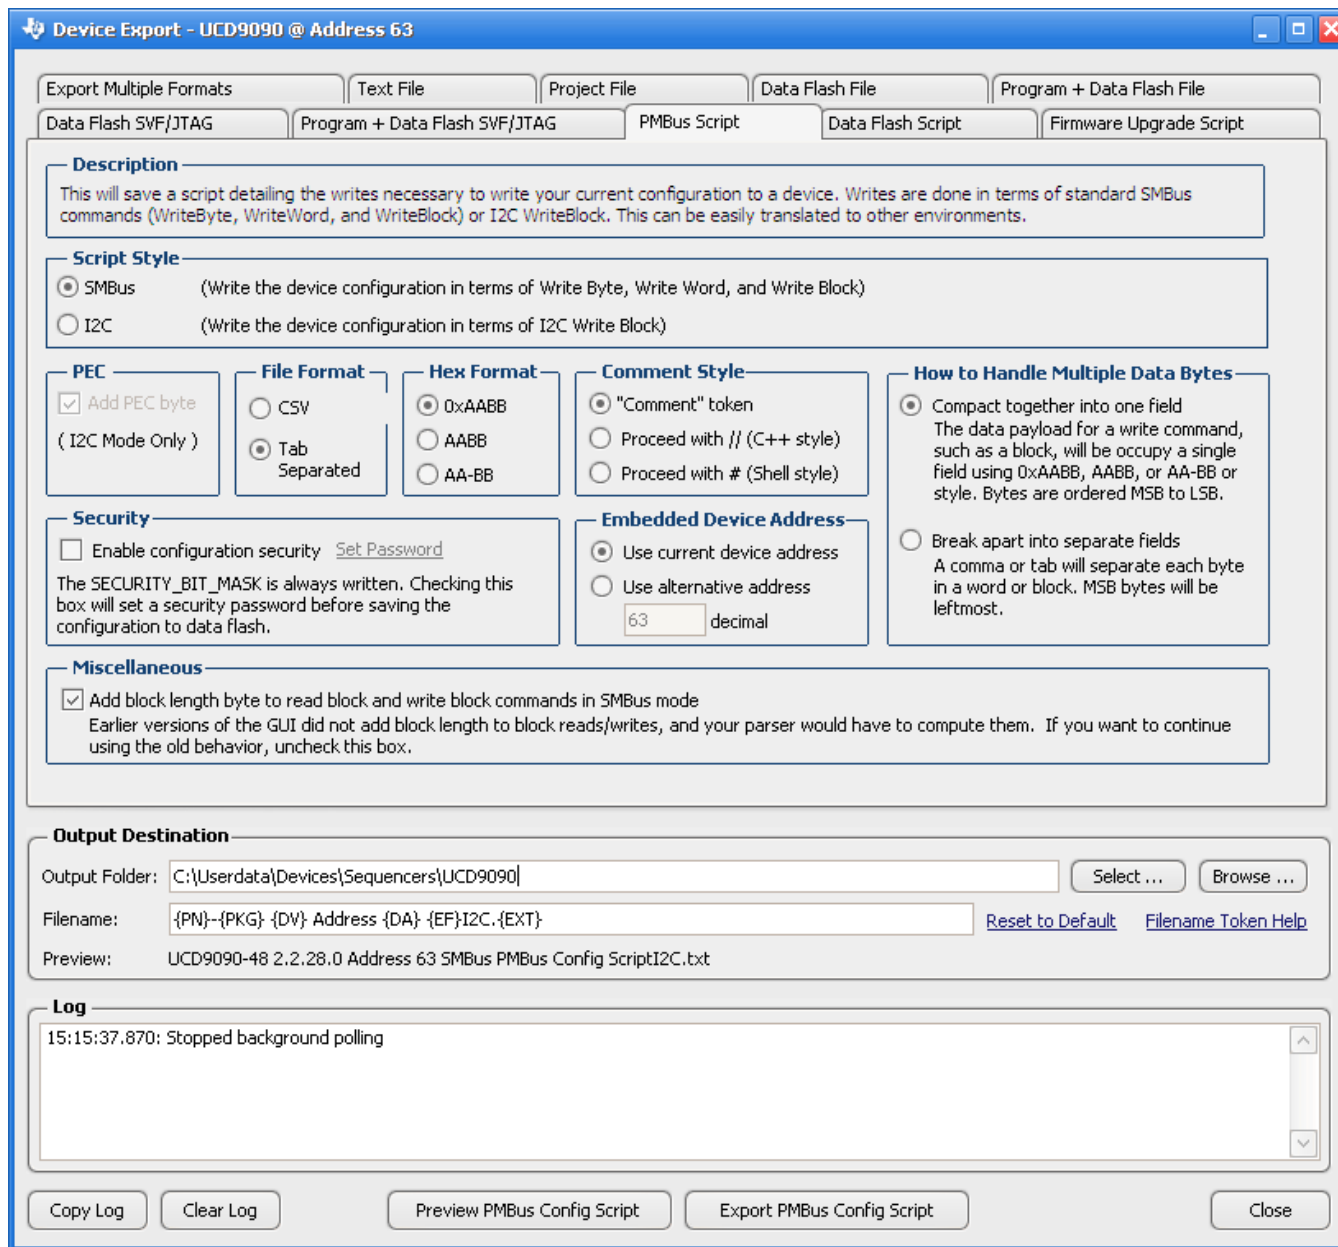

Figure 30. Fusion GUI PMBus Configuration Script Export Tool
2. The *Fusion GUI* (Figure 30) can create a PMBus or I²C command script file that can be used by the I²C master to configure the device.